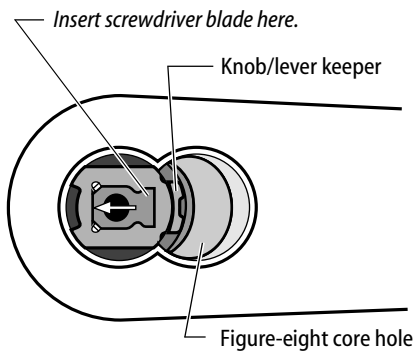

Figure 5
- 1 Insert the control key into the core and rotate the key 15 degrees to the right.
- 4 Press the screwdriver blade in the direction of the arrow in Figure 5.